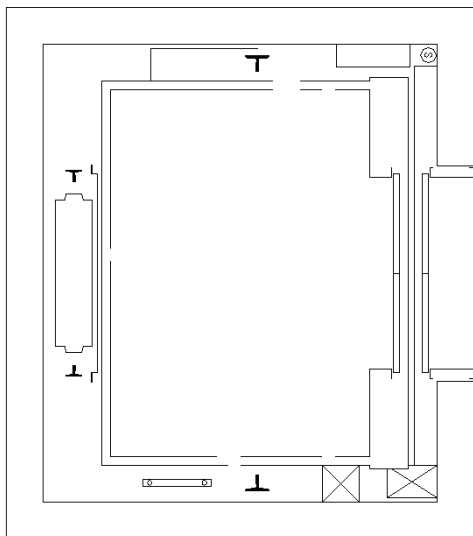

Figure 4-3.6 Elevator drawing
13. Click on all the text, dimensions and centerlines until the drawing looks like Figure 4-3.6.